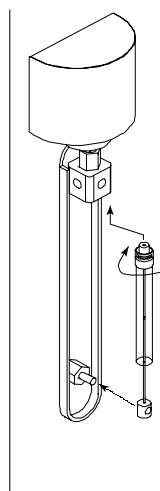

Fig. 3. Schematic drawing of 250 μ L AS 100 syringe.
5. Re-install new syringe (see Fig. 3).